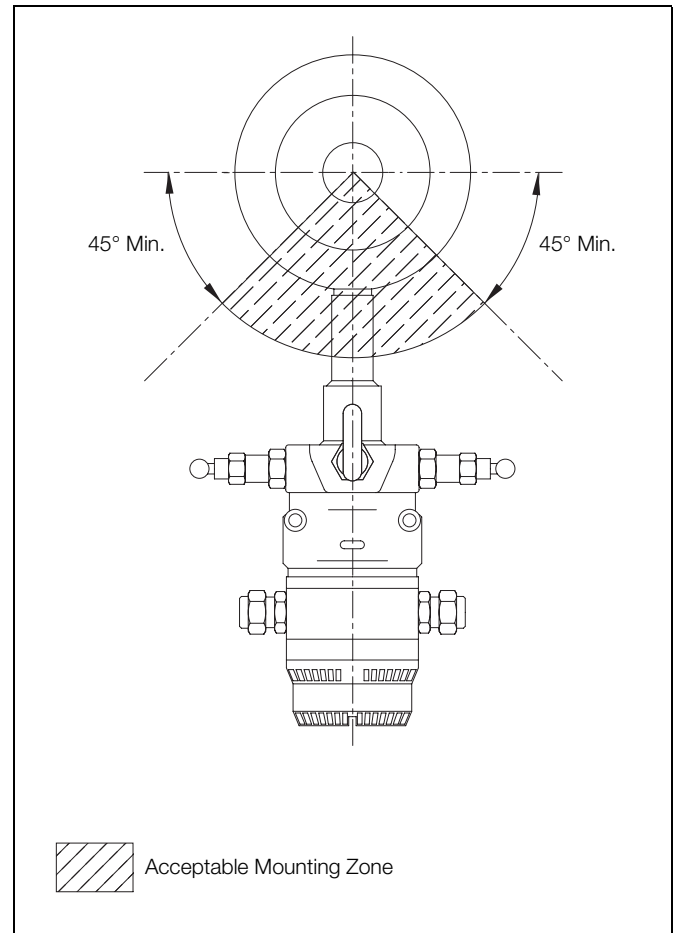

Fig. 2.3 Horizontal Pipe Mounting – Liquids & Steam
To ensure that gases vent back into the pipe, mount the meter **below** the pipe, at least 45 degrees below the horizontal – see Fig. 2.3.
- for horizontal pipe mounting – liquid, refer to Fig. 2.3.
1. Referring to Fig. 2.3, install OriMaster V as described in Section 2.3.